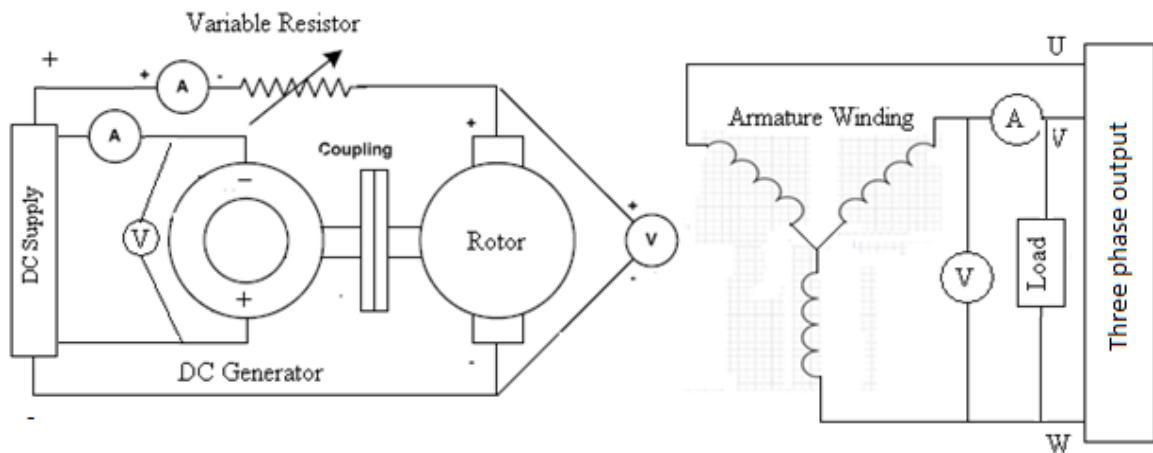

Figure 9.1. Voltage regulation of synchronous generator
The circuit diagram for determination of synchronous generator is shown in Figure 9.1
1. Connect the circuit as shown in Figure 9.1.